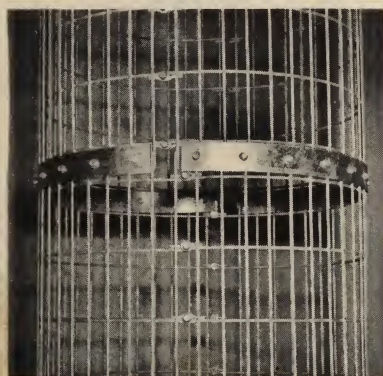

FIG. 14
3. No. 116028 and 116029 Coupler Bands, use 2 each to join Ventilator tube assemblies. This is a 4 piece assembly making up an inter and outer ring. Position bands and bolt together with $\frac{3}{8}$ " dia. x $\frac{7}{8}$ " bolts and nuts as shown in Fig. 14. (Coupler bands needed for E-15A, EX-15A and E-20A cribs only.)